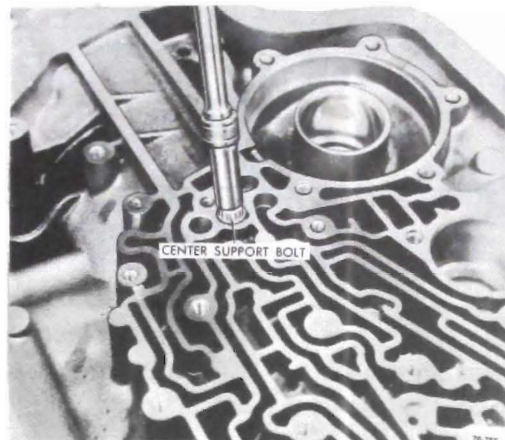

Figure 76-549
11. Remove center support to case bolt using a 3/8" 12 point thin wall deep socket. See Figure 76-549.